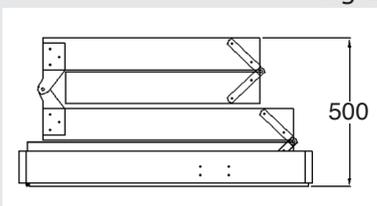

fig 2
5. The area for the opening must be clear of wiring, plumbing and structural members such as beams and trusses with a minimum clear height above the ceiling of 500mm (figure 2).